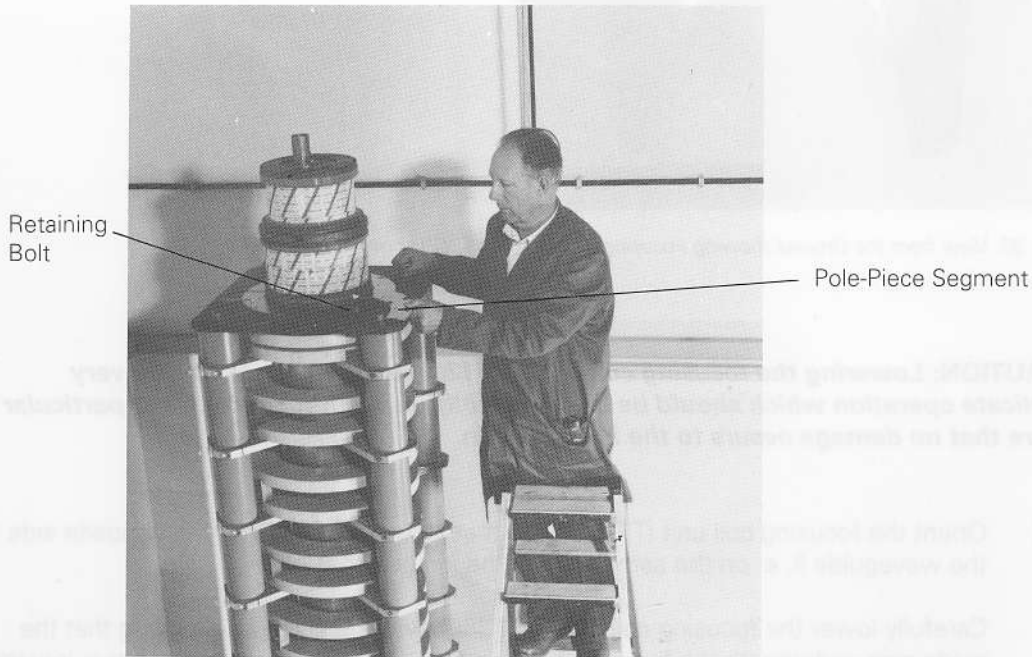

Fig. 39. Fitting the Four Pole-piece Segments
- i) Finally fit the four pole-piece segments (Fig. 39) to the top of the focusing coil unit (TE 1266). Each segment slots inside its retaining bolt and should be pushed firmly against the klystron flange. The retaining bolt is then pushed inwards to retain the segment and finally tightened with an Allen key.